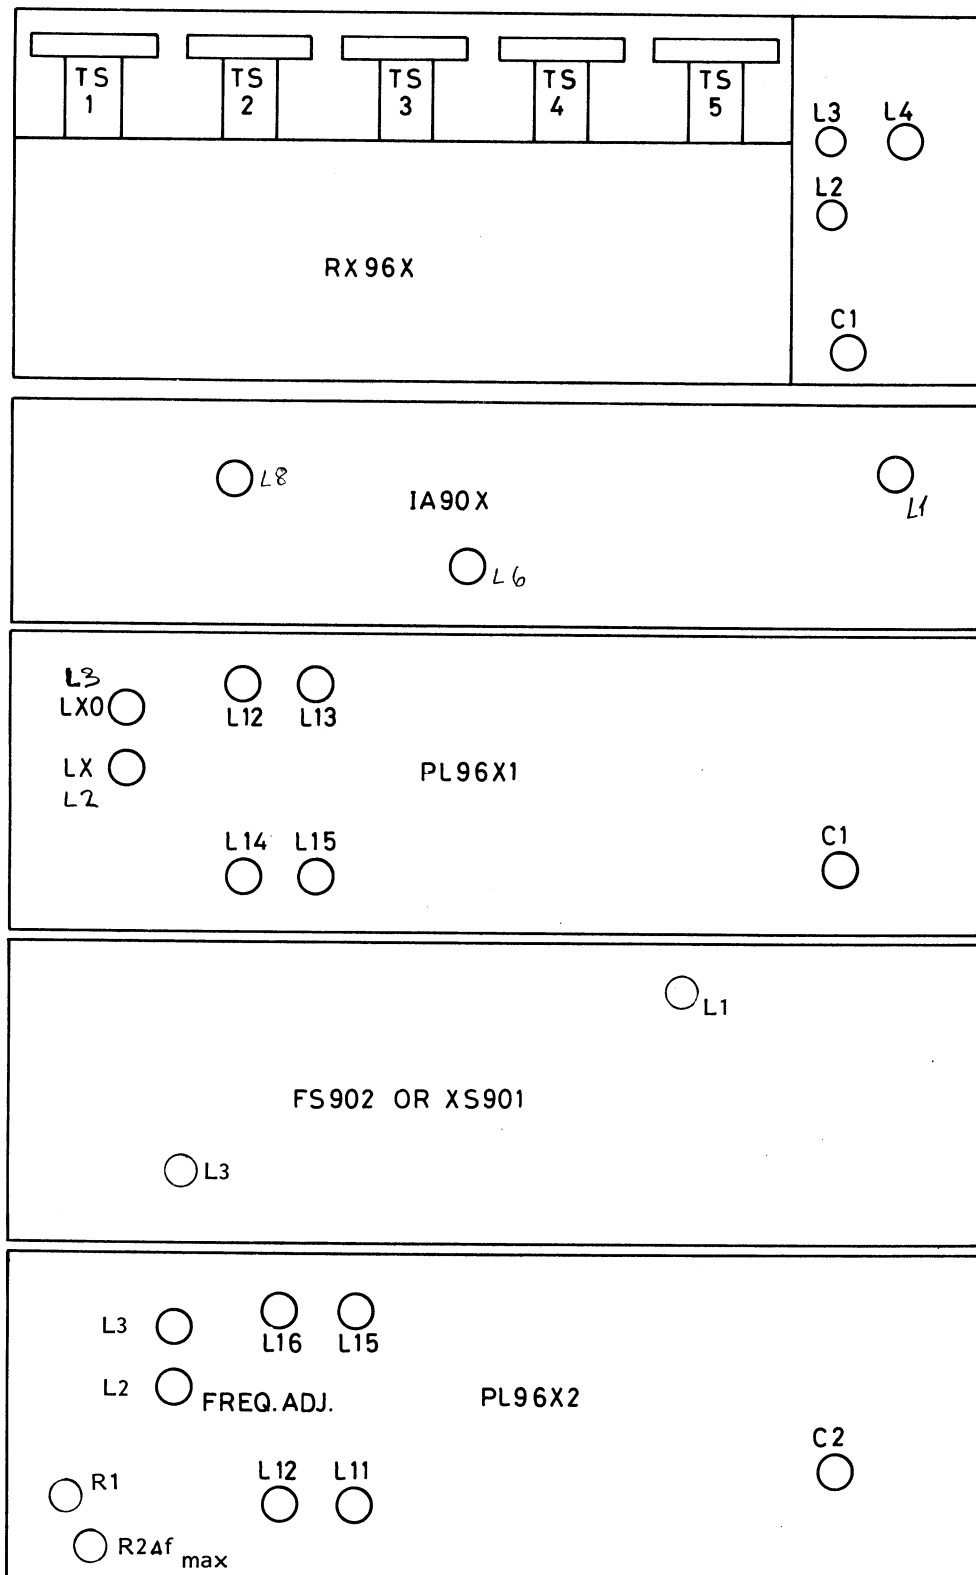

FIG. 2. ADJUSTABLE COMPONENTS
- Connect the voltmeter to 1 and 10. Tune L_3 and L_{16} in PL962 for maximum meter reading (0.85 V). (See fig. 2)
The frequency is adjustable with L_2 in PL962 see fig. 2. The transmitter signal shall be unmodulated.
With R_{PA} in the stage (see fig. 2) the power level is adjusted to the specified level.
frequency the deviation is adjusted with R_2 in PL962/965 (see fig. 2) to the specified level.